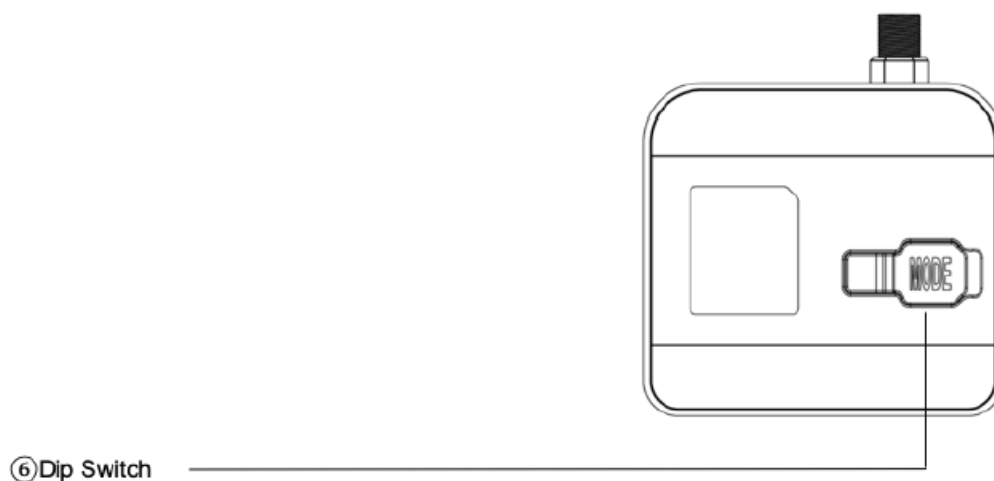

FIG. 1-3-2 Appearance (Back)
- Switch between Serial mode and HID mode by switching Dip Switch 2's ON/OFF switch (see FIG. 1-3-2©) of the ASR-P37U.